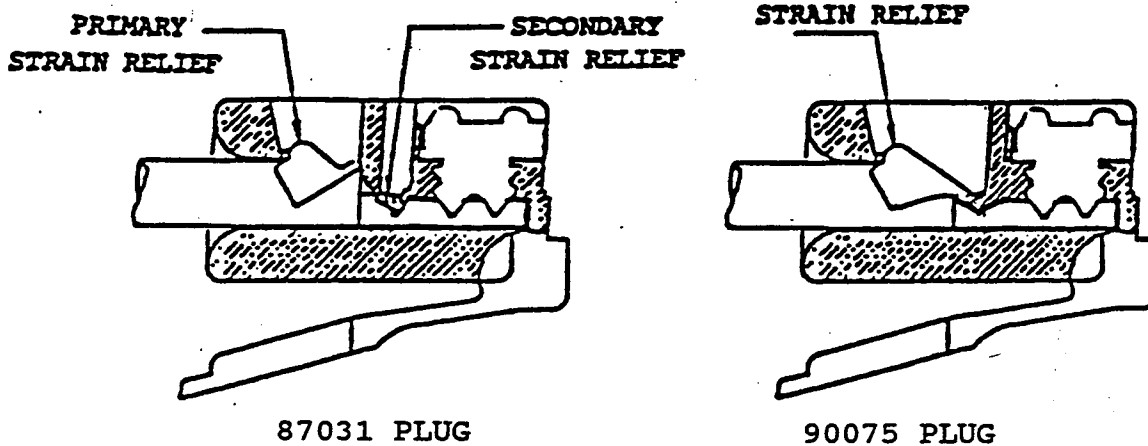

FIG.1
13. Load a prepared cable into the plug located below the punches and push all the way forward. (see cable preparation instructions) Depress the foot switch on the press and remove the completed plug at the right end of the die guard. Inspect for proper termination depth and strain relief latching. (see fig.1)